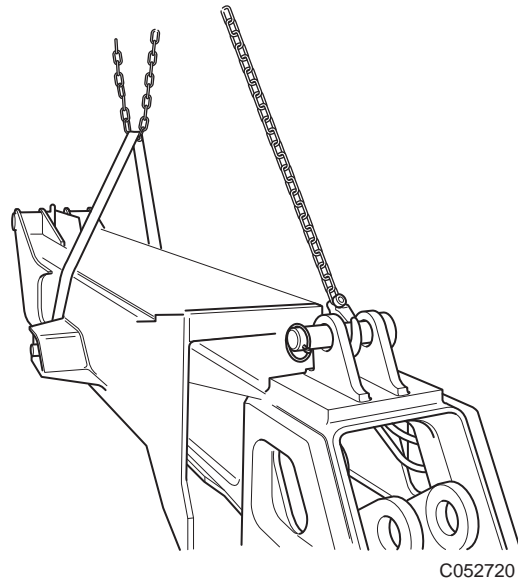

Fig 44. Lifting the Boom
- 22 Carefully lift the boom away from the machine → **Fig 44. (B-40)**, checking for any remaining connections. Lower the boom onto packing material.